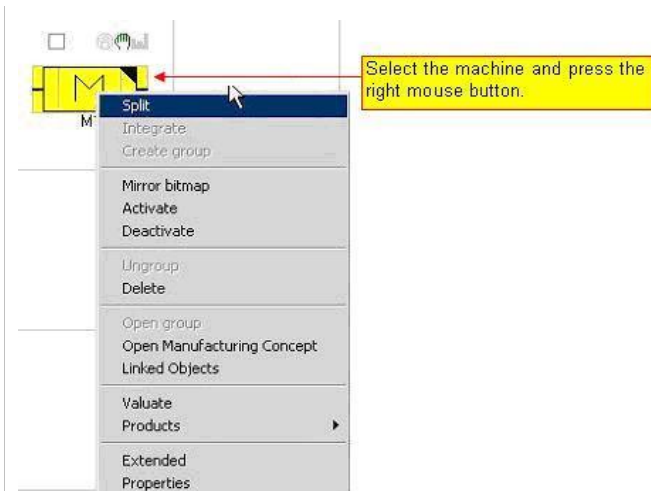

Figure 24: The Split Context Menu
- 3) Press the right mouse button and click **Split**. Please refer to the Figure 24.